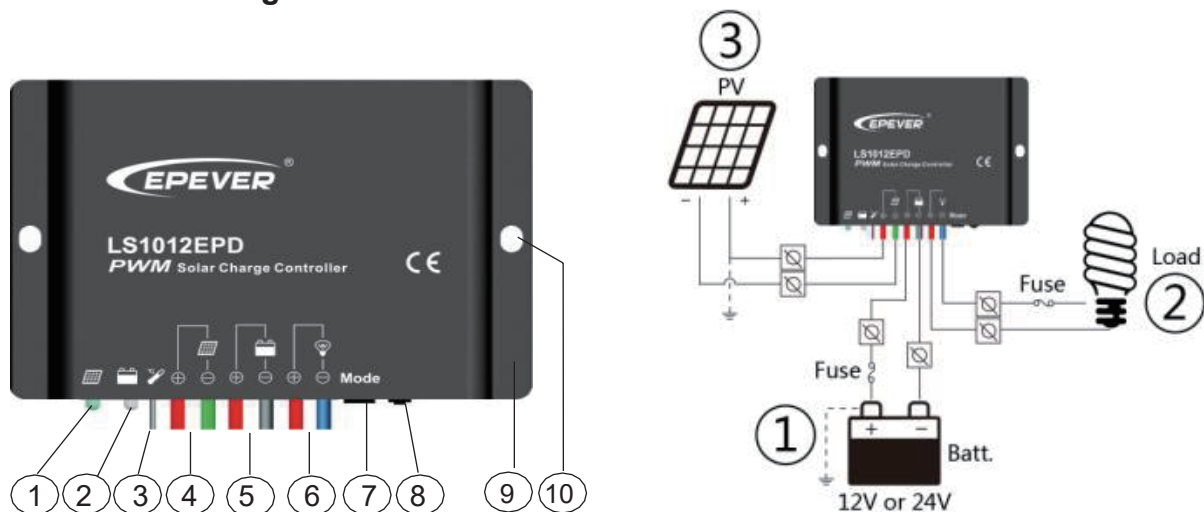

Figure 1 Characteristic
Step 2: When all the connections are complete, the Battery status indicator (10, Figure 1) should light up if the battery is connected to the charge controller. If the solar panel is under direct sunlight, the charging status indicator (10, Figure 1) will be on as well. (Detailed information under Specifications section)